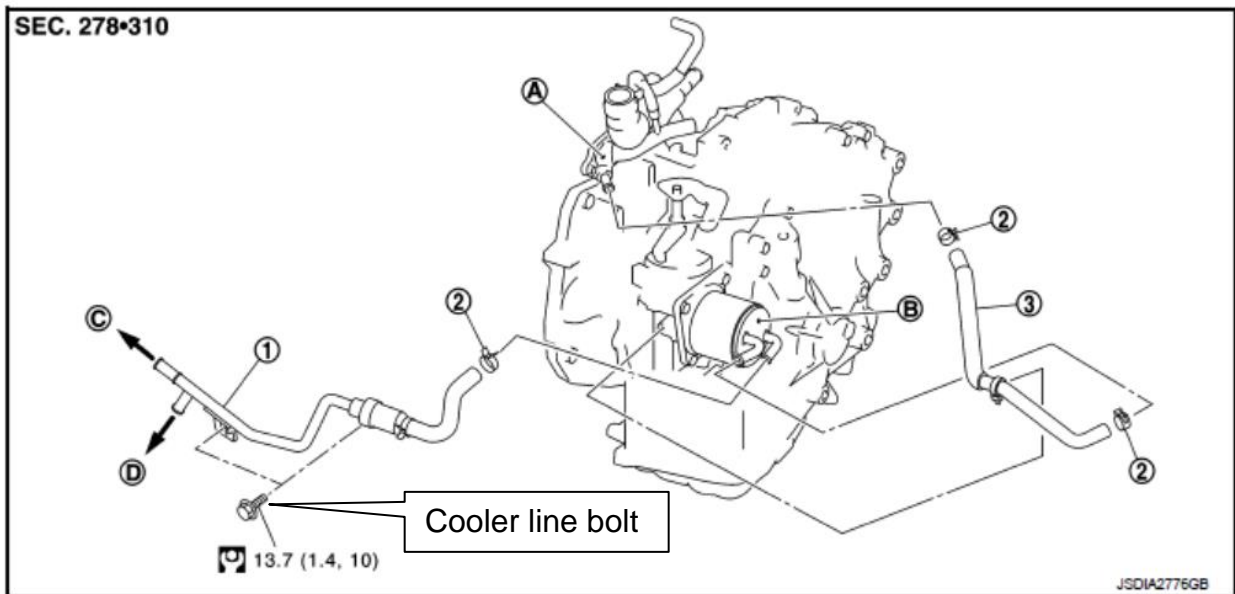

Figure 5
8. For CVT only: Remove the two cooler line mounting bolts shown in Figure 5.